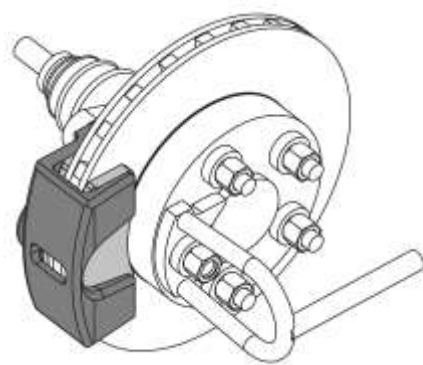

Fig. 66
17. Place a brake pedal depressor to lock the brake disc. Fig. 66.